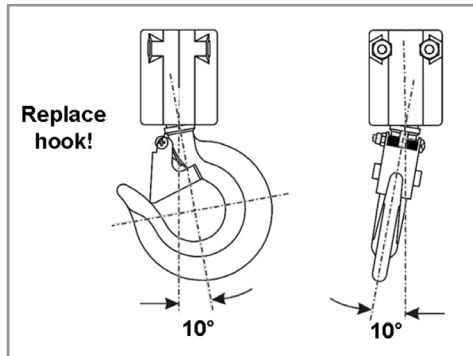

Figure 8
2. The vertical angle at the neck of the hook reaches 10° (see Figure 8).